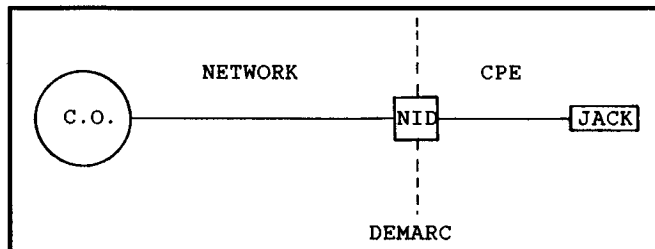

figure 2 Local Loop
The portion of the telephone network from the serving CO (or remote) to your home/business is called the local loop. Local loops are divided into two components: Network and CPE (see Figure 2).
a. Drill 6 holes as shown in Figure 2. The holes should be 1/2" in diameter, and drilled on 1" centers. They should be drilled 2 1/4" in from the front of the shroud on the top of the game.